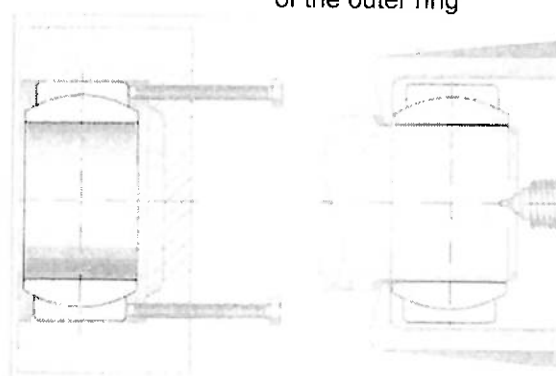

Fig. 10. Milled areas for extraction device
- threaded holes for extraction screws in the housing (Figure 10)
- milled areas on the stud for the jaws of the extraction device (Figure 10).